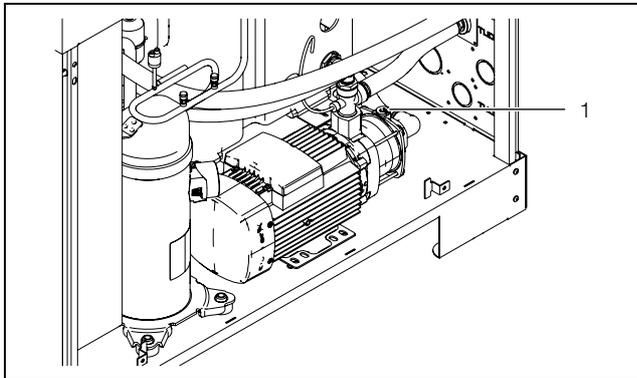

Fig. 17: Bleeding the cooling medium pump
- Bleed the cooling medium pump (with the system at a standstill) by loosening the vent screw (fig. 17, item 1). As soon as cooling medium escapes from the vent screw, bleeding of the pump is complete.